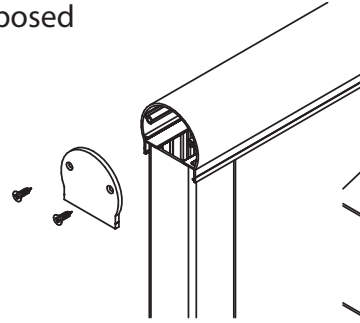

fig. 9
**5) Attach End Plates** (fig.9): install the end plate to all of the exposed top rail ends using two #10 x 3/4" flat head screws.